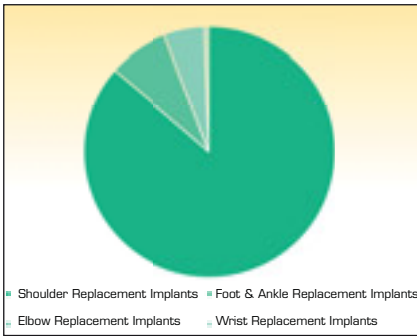

Fig. 1 – Minor orthopedic replacement implants market segmentation. (Credit: The Business Research Company)
**Market Segments.** Minor orthopedic implants include implants used in shoulder, wrist, ankle, and foot joints. Shoulder replacement holds the largest market share. Growth in all four segments — shoulder, wrist, elbow, and foot and ankle implants — has accelerated recently (see Figure 1).